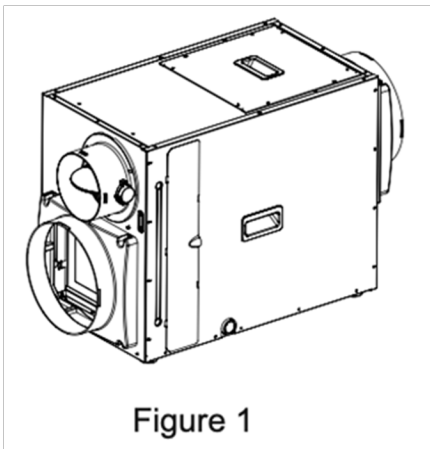
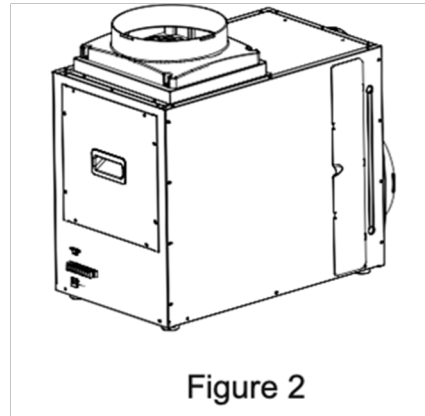

Figure 1
Figure 2
- a. For models **WH1000A** and **WH1200A**, Figure 1 shows the units as delivered. Figure 2 shows the supply side (outlet) duct adaptor changed to the vertical position. To make this change follow the instructions below.